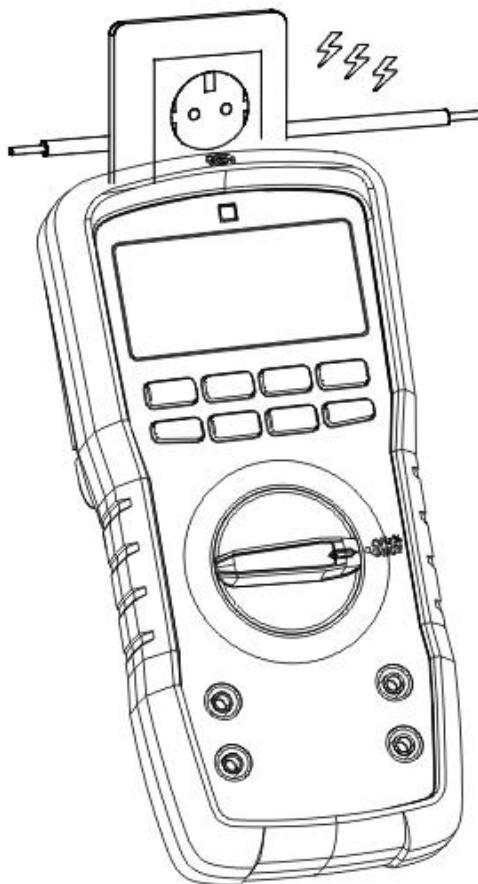

Figure 18
15. NCV (Non-contact AC voltage sensing) (Figure 18)